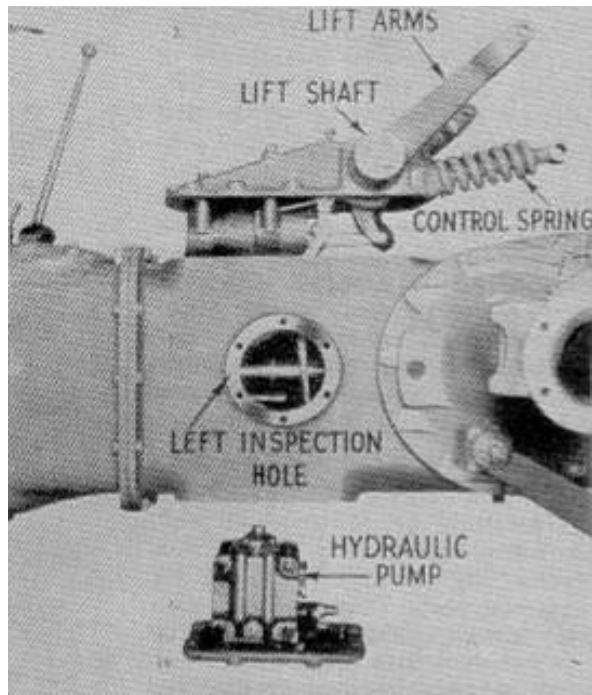

Fig. F083 - Left cover assembly and hydraulic pump being installed to rear axle center housing.
105. R&R COVER FROM TRACTOR. To remove lift cover unit from tractor, first remove the tractor seat and the inspection plate from left side of axle center housing as shown in Fig. F083. Working through the inspection cover opening spread the hand lift control fork (53-Fig. F084) until lower ends of same are released from the pump control valve (11).